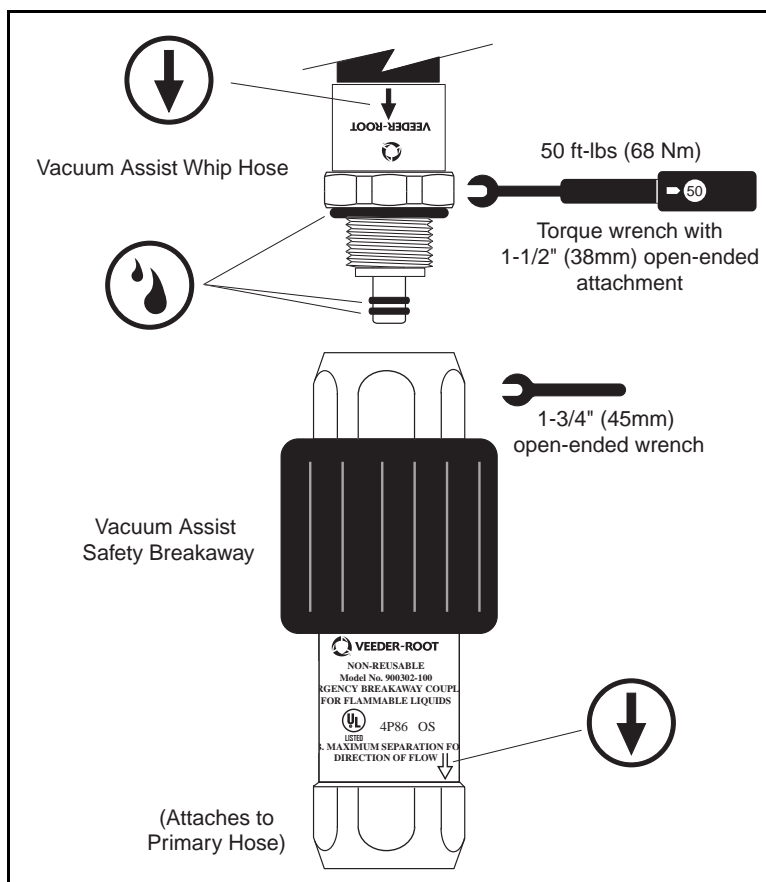

Figure 3. Connecting Vacuum Assist Safety Breakaway
4. Inspect and lubricate the three o-rings (Figure 3) on the fitting using mineral oil or other suitable lubricant.